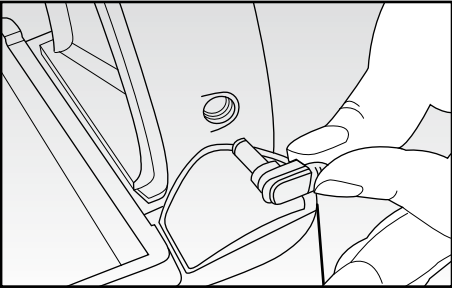

Fig. 6
- Insert the the charging adapter (I) into a mains power socket and the plug into the corresponding jack situated on the recharging base (G) (Fig. 6).